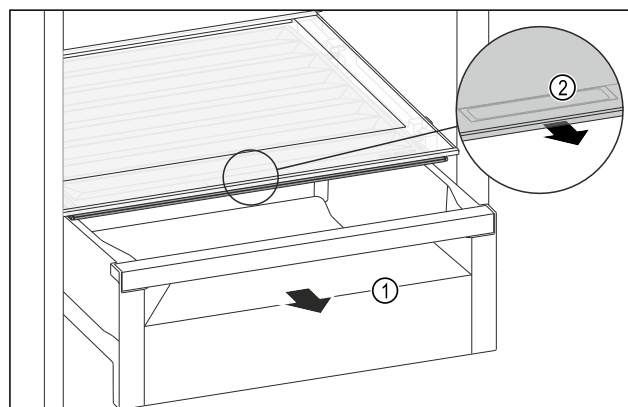

Fig. 73
- Pull out the drawer Fig. 73 (1).
- Grasp the recessed grip Fig. 73 (2) on the compartment lid and pull the compartment lid forwards at the same time.